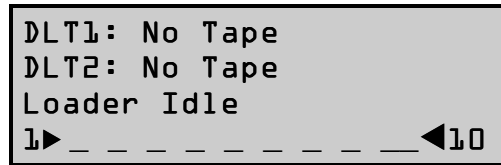
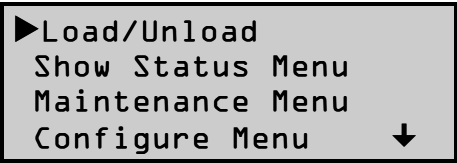

Figure 3-5 Default Screen
Figure 3-8 Main Menu
- 2) To return to the Main Menu from a submenu, press the **Escape** button repeatedly until the Main Menu appears. Pressing the **Escape** button while the Main Menu is displayed exits the Menu Mode and returns you to the Default Screen. The Default Screen is shown in Figure 3-5; the Main Menu is shown in Figure 3-8.
After the POST diagnostics have concluded successfully and initialization is complete, the default screen appears, as shown in Figure 3-5.
When the Default Screen appears on the screen, you can enter the Menu Mode by pressing the **Enter** button. The Main Menu shown in Figure 3-8 appears.